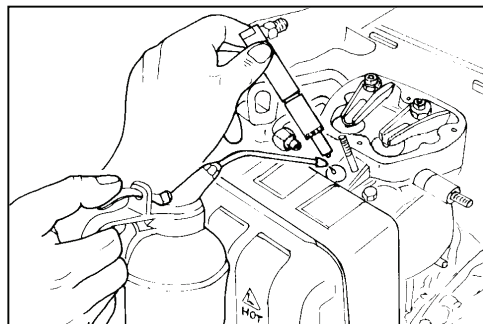
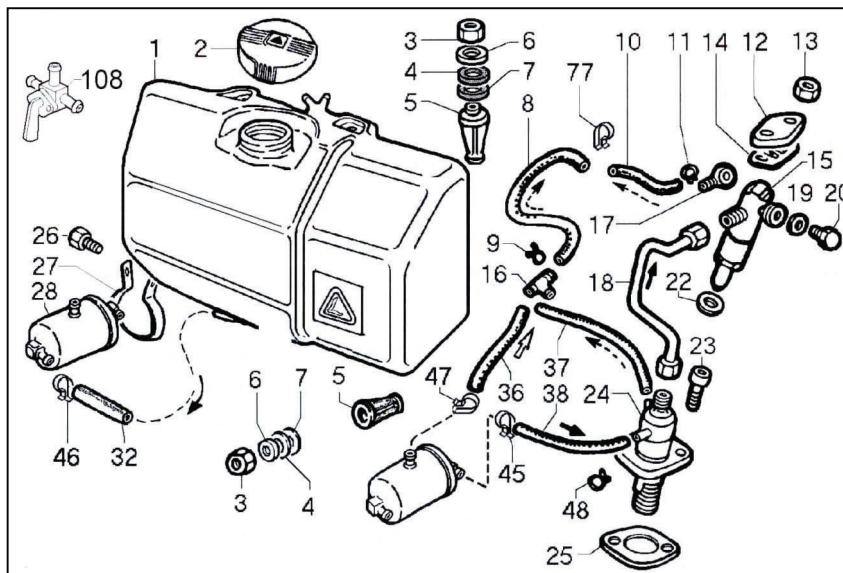
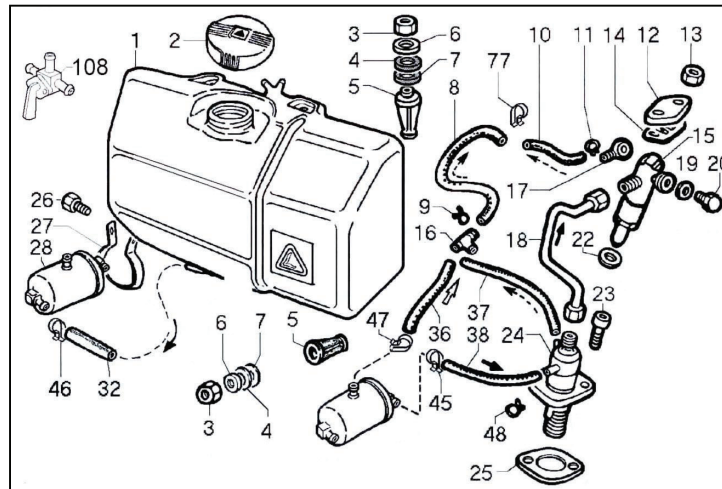

Figure 6
Figure 7
Figure 8
8. Remove the two nuts (figure 7, #13) that hold the injector plate (figure 7, #12) above the injector (figure 7, #15).
9. Loosen and remove the rigid fuel line (figure 7, #18) from the side of the injector (figure 7, #15).
10. Loosen and remove the injector vent line (figure 7, #10).
11. Remove injector (figure 7, #15), pour a spoonful of oil SAE 30 into the cylinder and rotate engine manually to distribute the oil. Refit the injectors (figure 7, #15). See figure 6.
6. Remove the two nuts (figure 8, #13) that hold the injector plate (figure 8, #12) above the injector (figure 8, #15).
7. Loosen and remove the rigid fuel line (figure 8, #18) from the side of the injector (figure 8, #15).
8. Loosen and remove the injector vent line (figure 8, #10).
9. Remove injector (figure 8, #15), pour a spoonful of oil SAE 30 into the cylinder and rotate engine manually to distribute the oil. Refit the injectors (figure 8, #15). See figure 6.